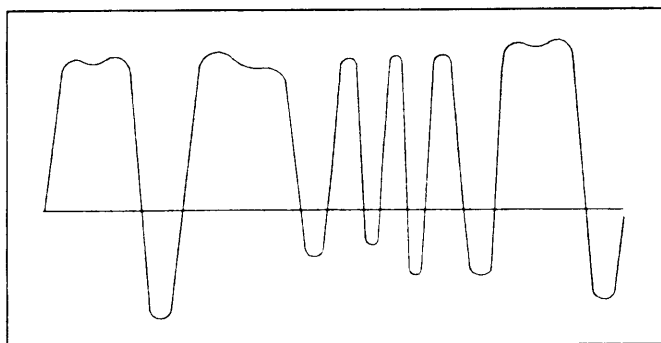

Figure 6 - Demodulated DCS Waveform
3. Press the PTT switch and observe the demodulated waveform on the oscilloscope. Compare with Figure 6.
For fast charging insert the battery or radio into the rear section of the charger (Figure 6). The FAST charge indicator (green) will flash. At the end of the charge period a trickle charge will be applied to the battery to maintain the fully-charged condition indefinitely. This is indicated by the SLOW charge indicator (red).
For trickle charging insert the battery or radio into the first section of the charger (Figure 6). The SLOW charge indicator (green) will light continuously.